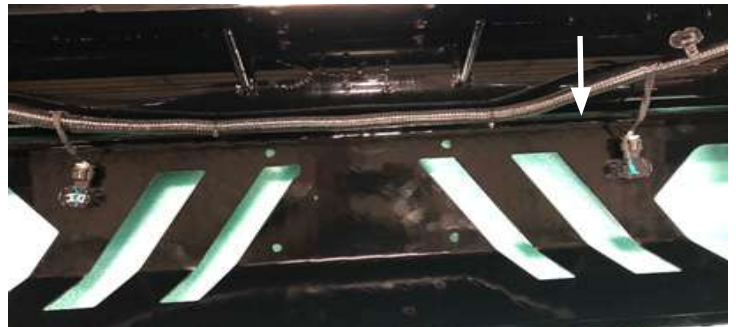

Figure 20
**19. Take the sensors, sensor housings and harness and install them into the bumper. Install the sensors by pushing the housings into the sensor holes from the outside of the bumper and connecting the sensors into the housings. Use epoxy (61632) around the housings to keep them in place,. Plug the harness into each sensor and the fog lights. (Figure 20)**